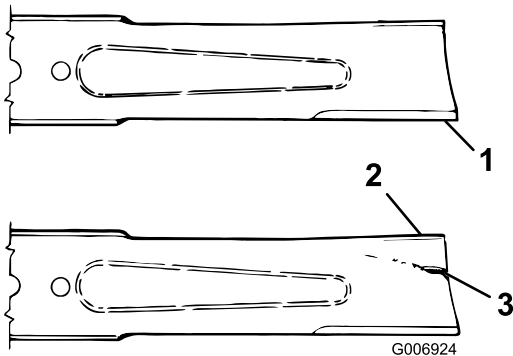

Figure 102
3. Examine the cutting ends of the blade carefully, especially where the flat and curved parts of the blade meet (Figure 102).
4. If wear is noticed (Figure 102), replace the blade; refer to Servicing the Blade Plane (page 69).
If the blade is allowed to wear, a slot will form between the sail and flat part of the blade (Figure 102). Eventually a piece of the blade may break off and be thrown from under the housing, possibly resulting in serious injury to yourself or bystanders.